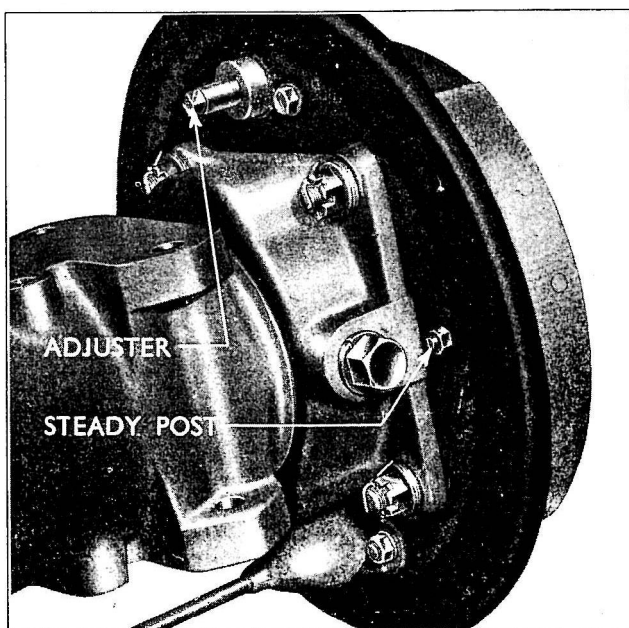

Fig. 228
- 2 Back off the adjuster carefully (see Fig. 228) until the shoes are just clear of the drum and which, when tapped, gives a clear ringing tone.